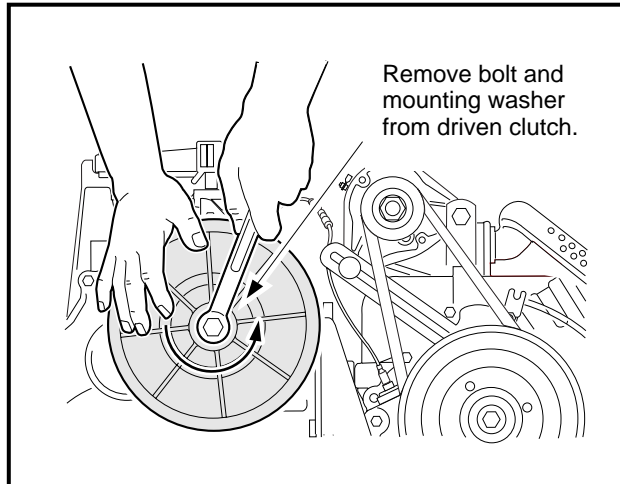

Figure 16-30 Driven Clutch
16. Remove the driven clutch retaining bolt and remove the driven clutch from the unitized transaxle (**Figure 16-30, Page 16-13**).